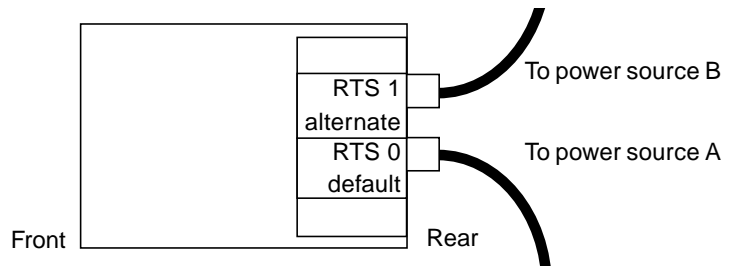

FIGURE 3-10 One RTU Assembly and Two Independent AC Power Sources
- In configurations with one RTU assembly and two independent AC power sources there will be two cables to connect, both in the rear of the system (FIGURE 3-10).